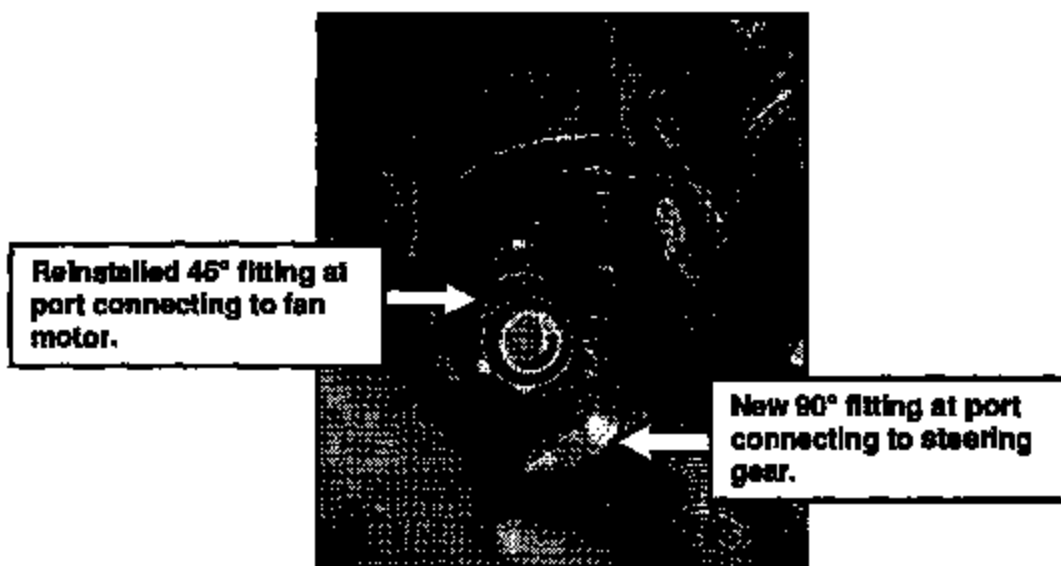

FIG. 3-1
8. Refer to FIG. 3-1. Install the new 90° fitting into the steering port on the pump; positioning at 8:00 o'clock relative to the installed location of the pump. Torque nut to 27 +/- 2 lb. ft.